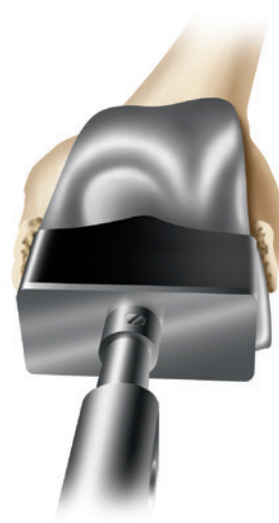

Figure 36
- 2 Place the femoral implant onto the femur and use the femoral impactor to fully seat the implant (Figure 36).